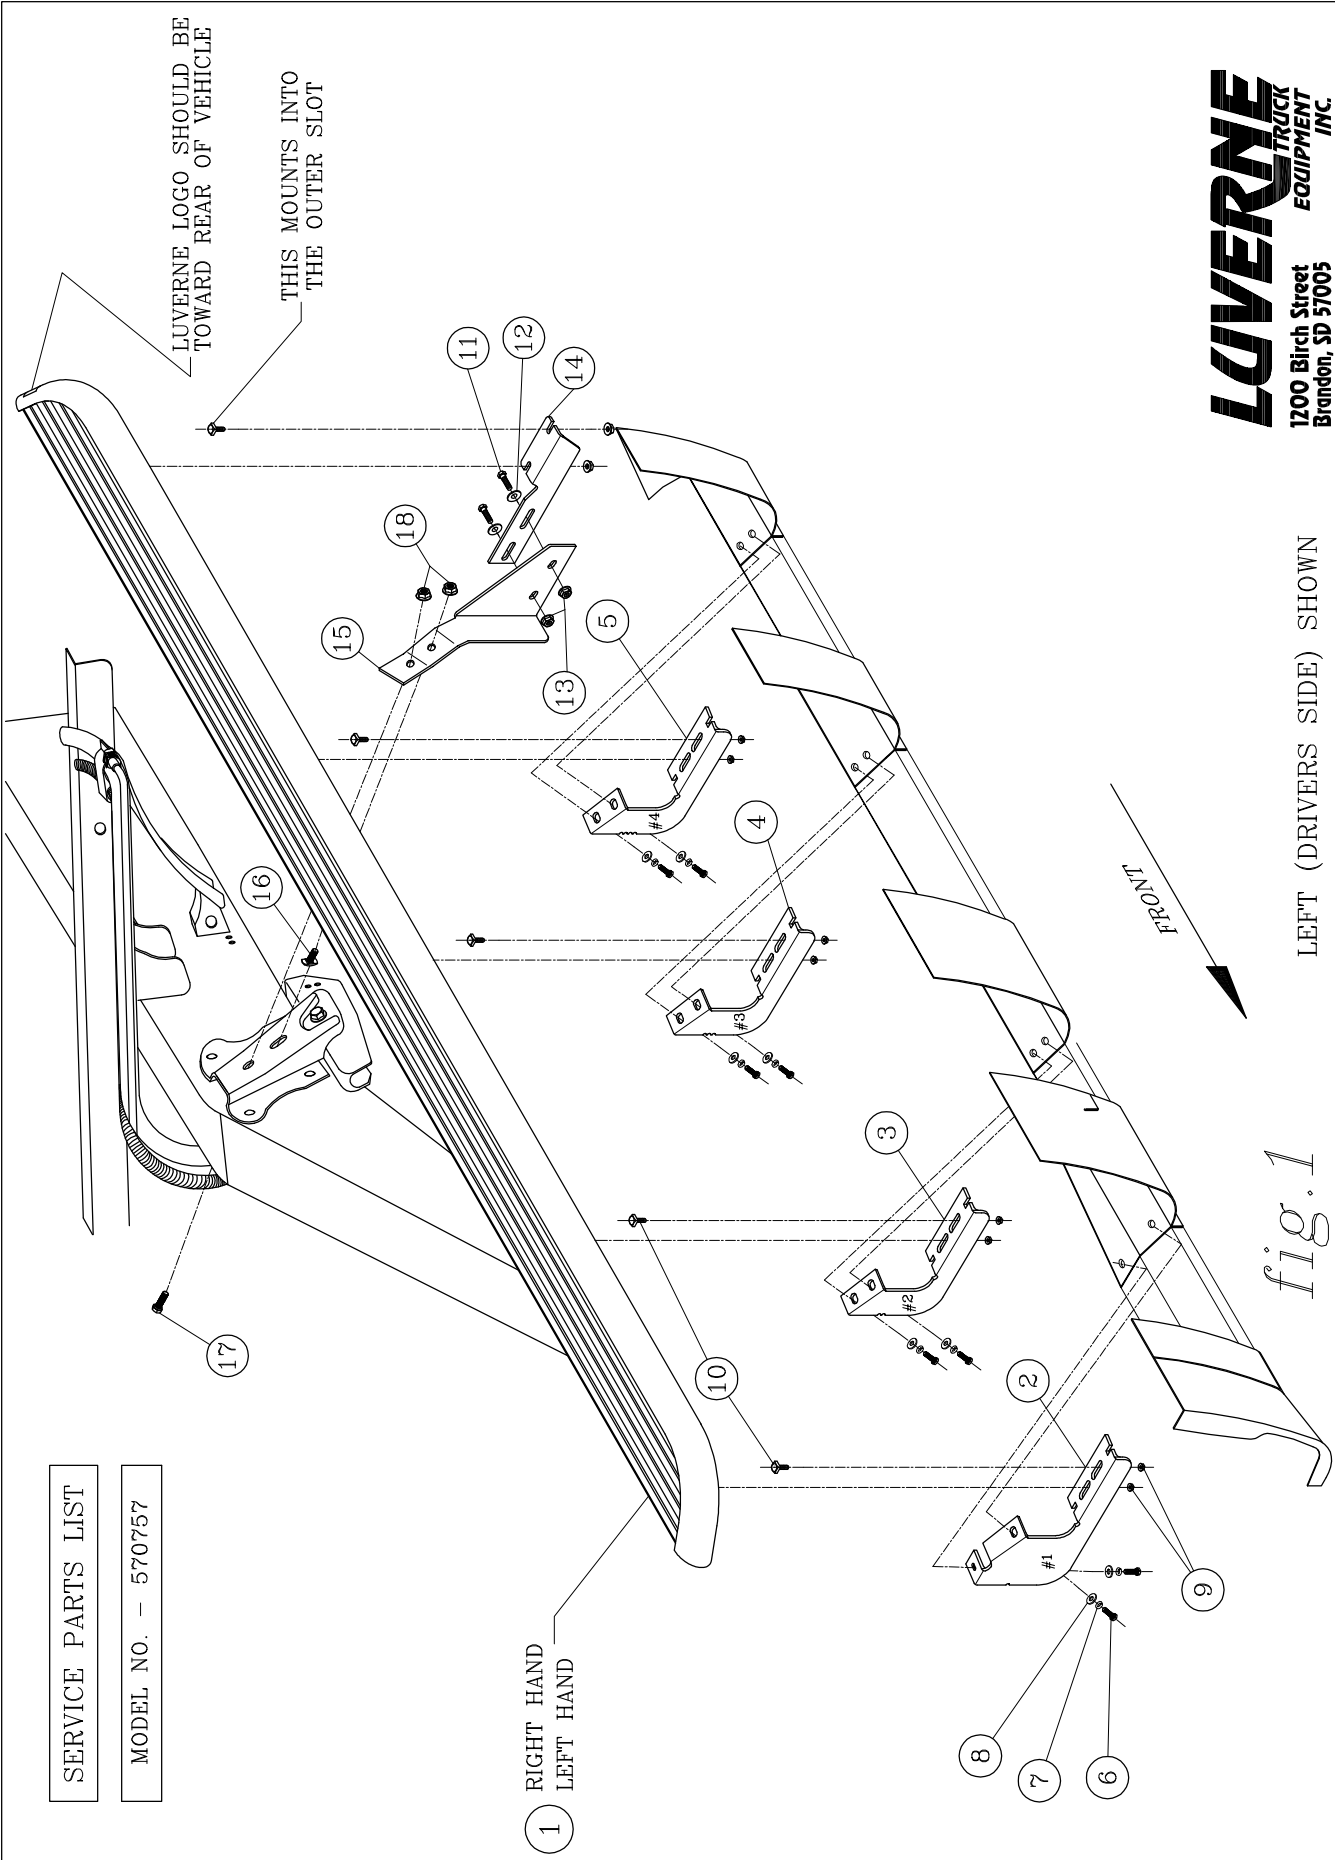

fig. 1
3. BEFORE ATTACHING THE O-MEGA STEPS TO THE BRACKETS, PLACE THE STEP PADS (ITEM #2) ON TOP OF THE STEP PLATES. USE THE TABLE ON SHEET #2, AS A GUIDE TO POSITION THE STEP PAD FOR YOUR PARTICULAR VEHICLE. WHEN INSTALLING THE PADS ON THE STEPS, DRILL (5) 1/8" HOLE USING THE STEP PAD AS A GUIDE. ATTACH WITH (5) 8-18X1/2" TEK SCREWS (ITEM #6) PROVIDED. REPEAT FOR ALL STEP PADS. **(NOTE: DUE TO THE SHORTNESS OF SOME BOXES, MOUNT THE BOX STEP PAD FIRST, APPROXIMATELY 1/2" FROM THE END CAP AND THEN MOUNT THE MIDDLE STEP PAD ACCORDINGLY.)**
5. INSTALL THE END CAPS (ITEM #3) AS SHOWN IN *fig. 1*, TIGHTENING THE NUTS TO 5 LB FT.
2. ATTACH THE MOUNTING BRACKETS TO THE VEHICLE USING EXISTING MOUNTING HOLES ON THE INTERIOR WALL OF THE ROCKER PANEL. **(NOTE: THE BRACKETS MUST BE PLACE IN THE PROPER POSITION. THEY ARE IDENTIFIED WITH NOTCHES ON THE INBOARD EDGE. [1 NOTCH IS FOR #1 BRACKET, ETC.] #1 WILL BE AT THE FRONT OF THE VEHICLE. SEE FIG. 1).**